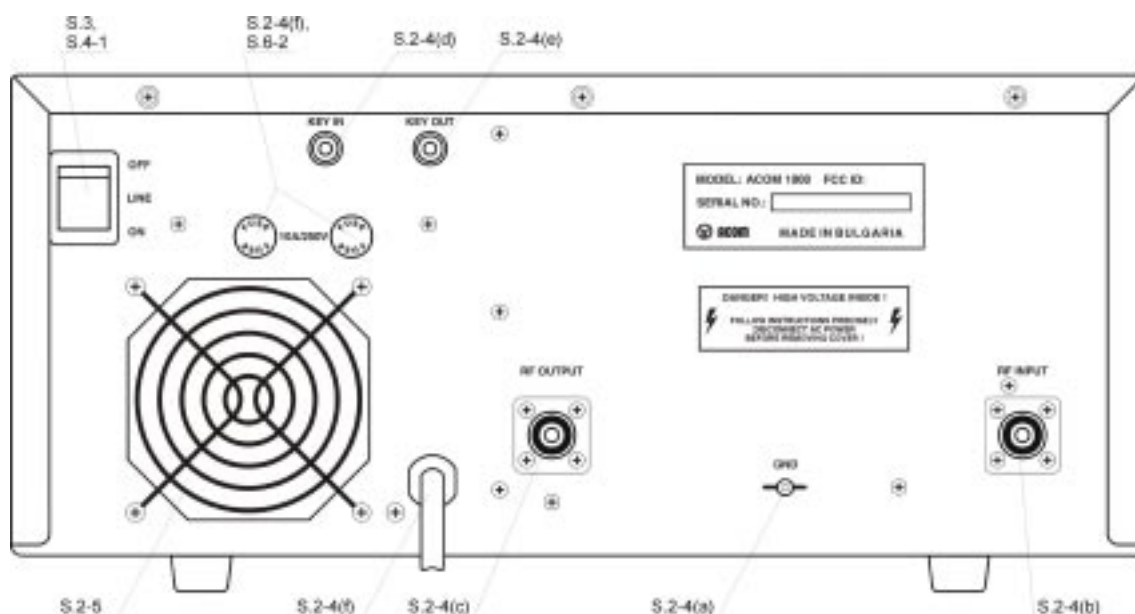

Fig.2-1 Connections
- a) First, connect the ground stud of the amplifier (on the rear panel, marked GND) to the station's grounding system (Fig.2-1).
This fan (Fig. 2-1) is not necessary in SSB and CW modes, nor in continuous carrier modes (RTTY, SSTV etc.) with carrier down times of maximum 15 minutes and a subsequent pause of 3 minutes. For higher duties or ambient temperatures the fan is recommended. The auxiliary fan (92x92mm) must be brushless type, 2...5W/24VDC. It may be installed by your dealer or by the manufacturer on request.
After following all instructions in S.2, you can turn ON the main power switch marked "LINE" on the rear panel (Fig.2-1). The red LED indicator above the red ON/OFF button located on the front panel must light red and a black inscription "ACOM1000" will appear on the LCD (Fig.3-1):